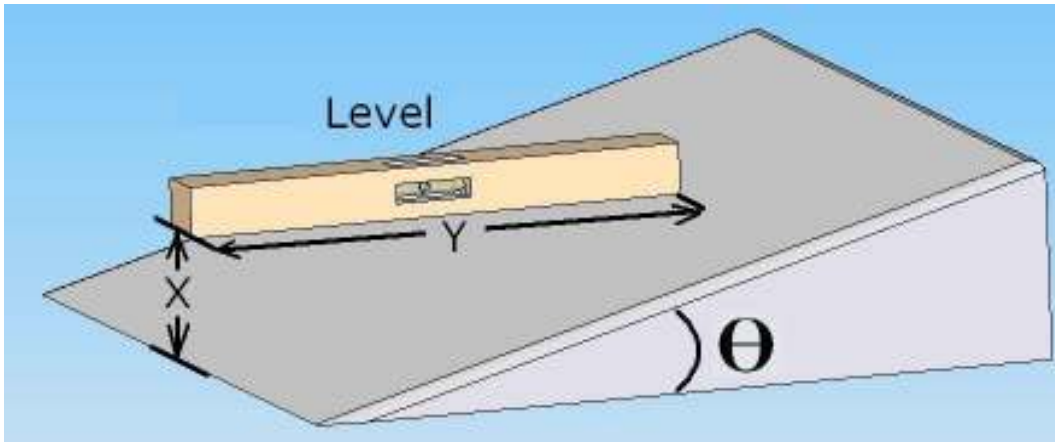

Figure 1: Orientation of level to measure slope of ramp
Measure slopes using the bubble level and straight edge. The 2 are combined in Figure 1. Make sure one end of the bubble level is contacting the slope, and it is level (horizontal, as indicated by the bubble). Holding the small ruler vertically, complete the right angle triangle formed by the ramp, level, and ruler. Take note of the distance (X) between the lower end of the level and the ramp. Refer to the Table 3, 3.5, or 4 (for horizontals of different lengths) to find which slope value this best represents.